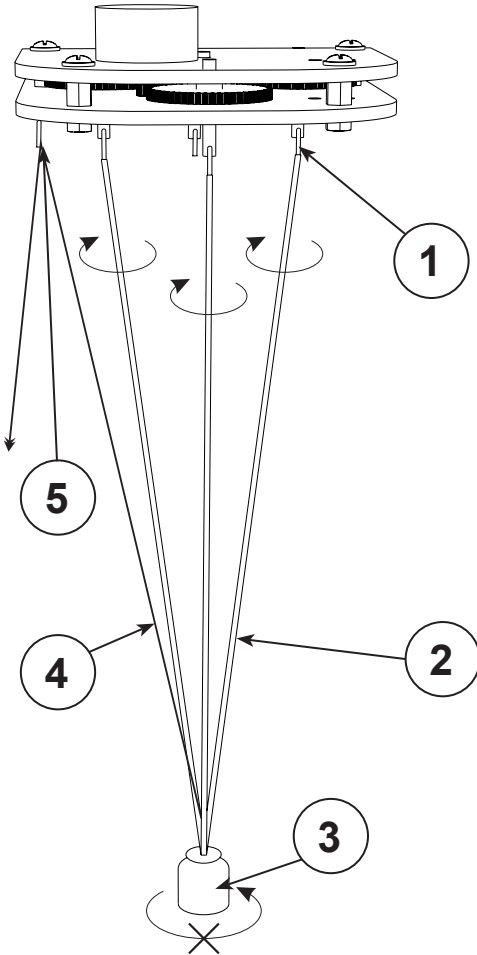
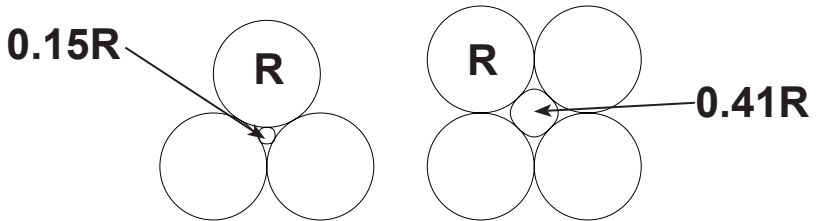

Figure 8.
Figure 10.
4. Tie source threads (2) to the hooks (1).
5. Tie the load (3) to loose ends of threads (2).
6. Tie the core (4) to the load (**fig. 8**). Thread the other end of the core through side hole hook. It is recommended to have the core twice the length of source threads. The core diameter should not exceed the diameter shown on **fig. 10**.